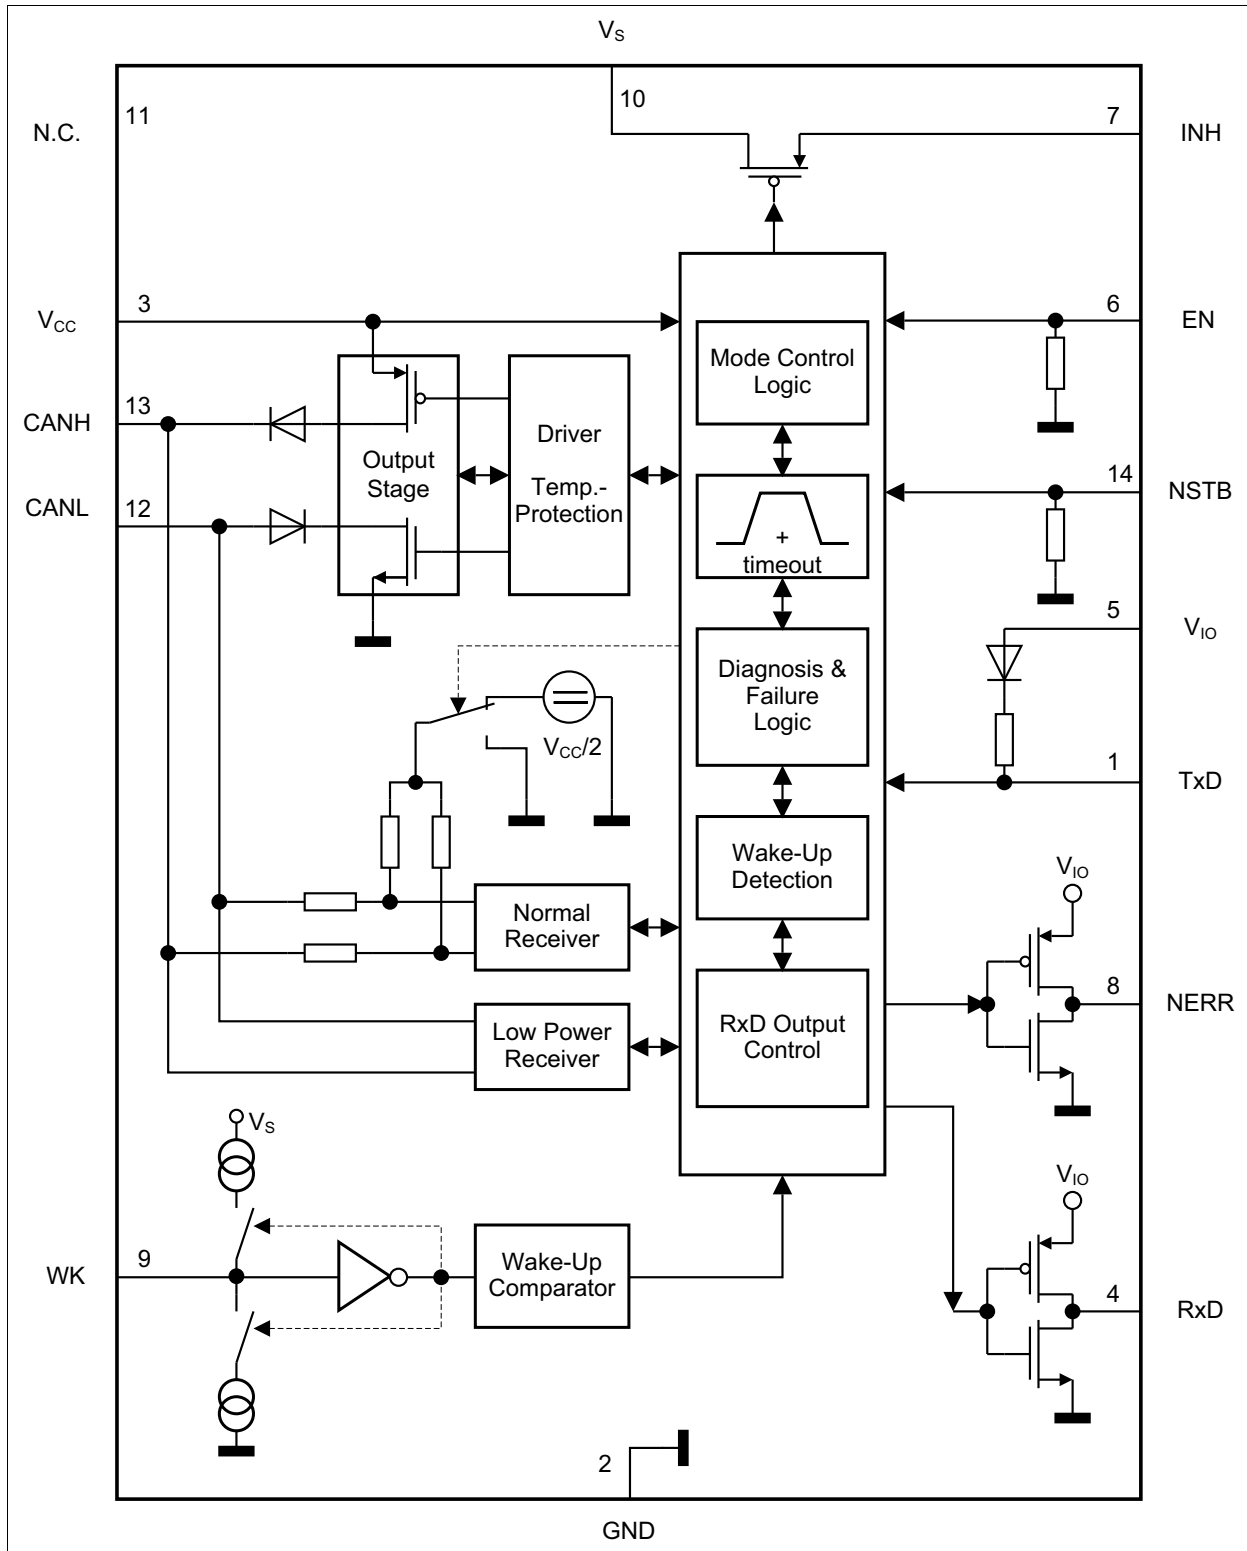
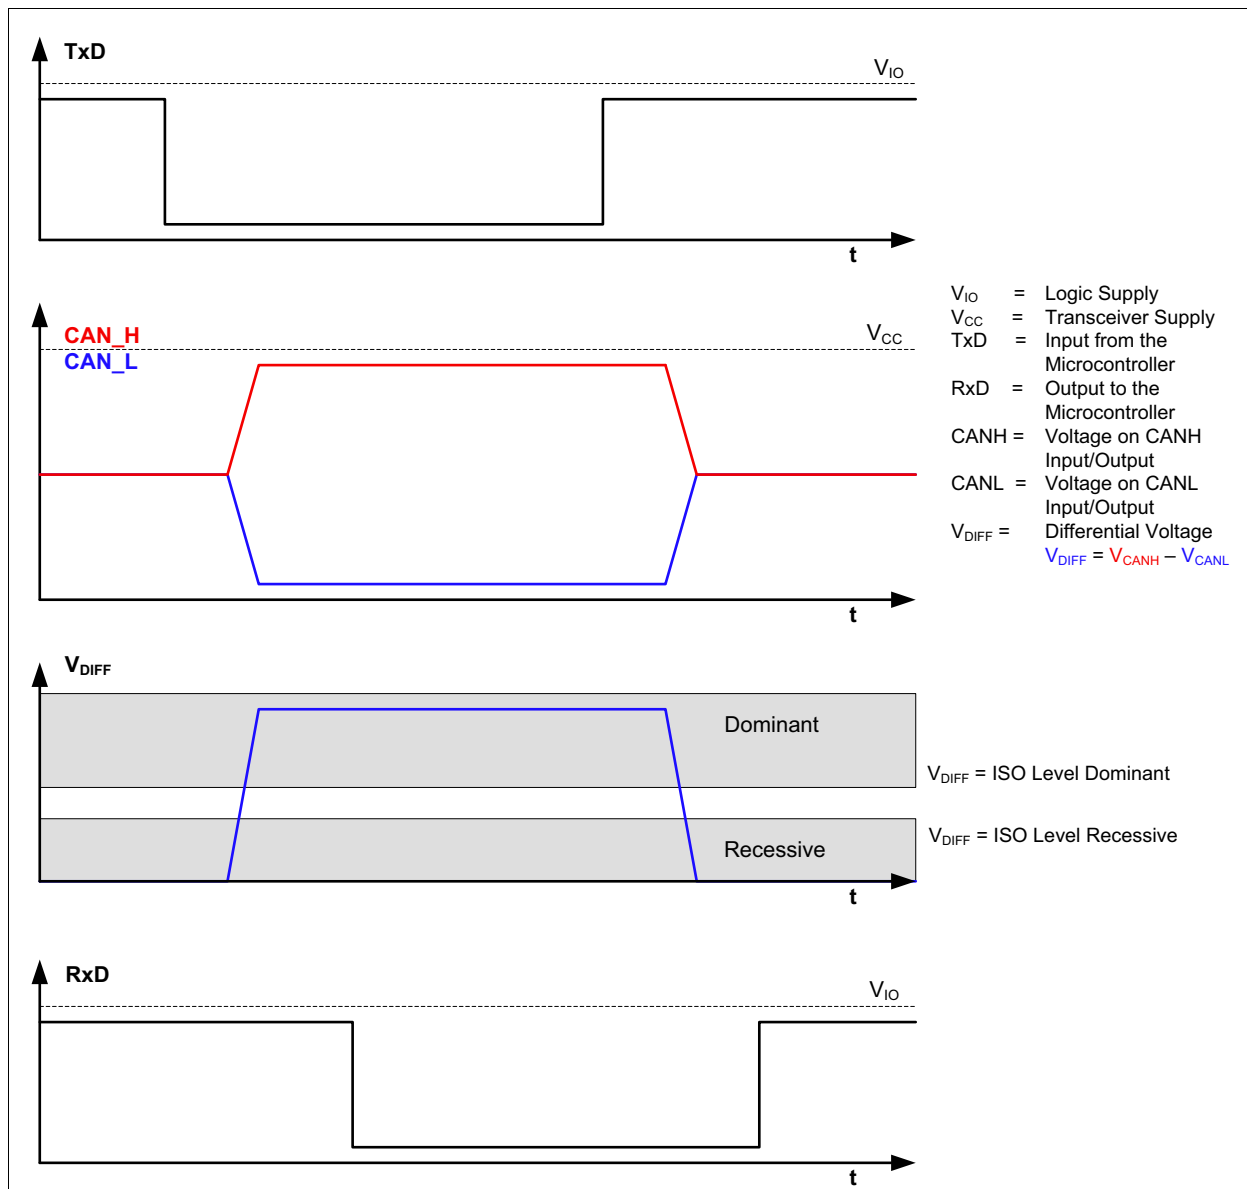

Figure 1 Block Diagram
Figure 3 High Speed CAN Bus Signals and Logic Signals
The TLE6251-3G is a High Speed CAN transceiver, operating as an interface between the CAN controller and the physical bus medium. A **H**igh **S**peed CAN network (abbreviated HS CAN) is a two wire differential network which allows data transmission rates up to 1 MBaud. Characteristic for a HS CAN network are the two CAN bus states “Dominant” and “Recessive” (see Figure 3).
The input TxD and the output RxD are connected to the microcontroller of the ECU. As shown in Figure 1, the HS CAN transceiver TLE6251-3G has a receive unit and a output stage, allowing the transceiver to send data to the bus medium and monitor the data from the bus medium at the same time. The HS CAN TLE6251-3G converts the serial data stream available on the transmit data input TxD into a differential output signal on CAN bus. The differential output signal is provided by the pins CANH and CANL. The receiver stage of the TLE6251-3G monitors the data on the CAN bus and converts them to a serial data stream on the RxD pin. A logical “Low” signal on the TxD pin creates a “Dominant” signal on the CAN bus, followed by a logical “Low” signal on the RxD pin (see Figure 3). The feature, broadcasting data to the CAN bus and listening to the data traffic on the CAN bus simultaneous is essential to support the bit to bit arbitration on CAN networks.
- Through the internal resistors  $R_I$  (see Figure 1), the pins CANH and CANL are connected to GND.